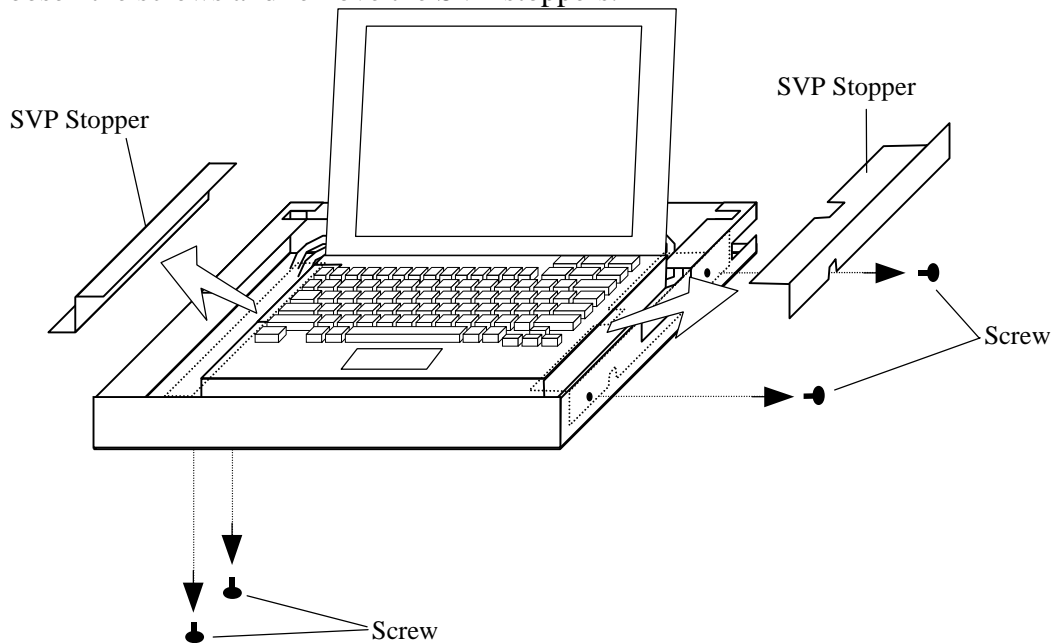

Fig. 3.15-13 Removing and installing the SVP Stoppers
- b. Install the SVP to the SVP ASSY and attach the SVP stoppers with screws. (See Fig. 3.15-13.)